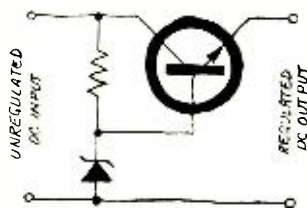

Fig. 6. Basic regulator circuit using a zener diode and emitter-follower pass transistor. This circuit provides current gain with no gain in voltage.
**Pass Transistor Regulator.** Using a zener diode as a reference regulator, the power supply's output regulation can be improved by employing an emitter-follower pass transistor to obtain current gain with no gain in voltage. The configuration of this circuit is shown in Fig. 6.